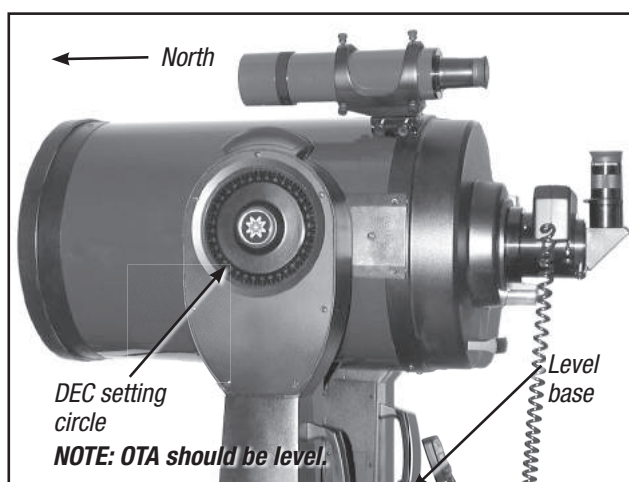

Fig. 12. Alt-az home position
- a. See **Figs. 12 and 13.** Loosen the telescope's DEC lock (**Pg. 10, Fig. 1, 17**). Set the optical tube to 0° on the DEC setting circle (**Fig. 1, 20**).